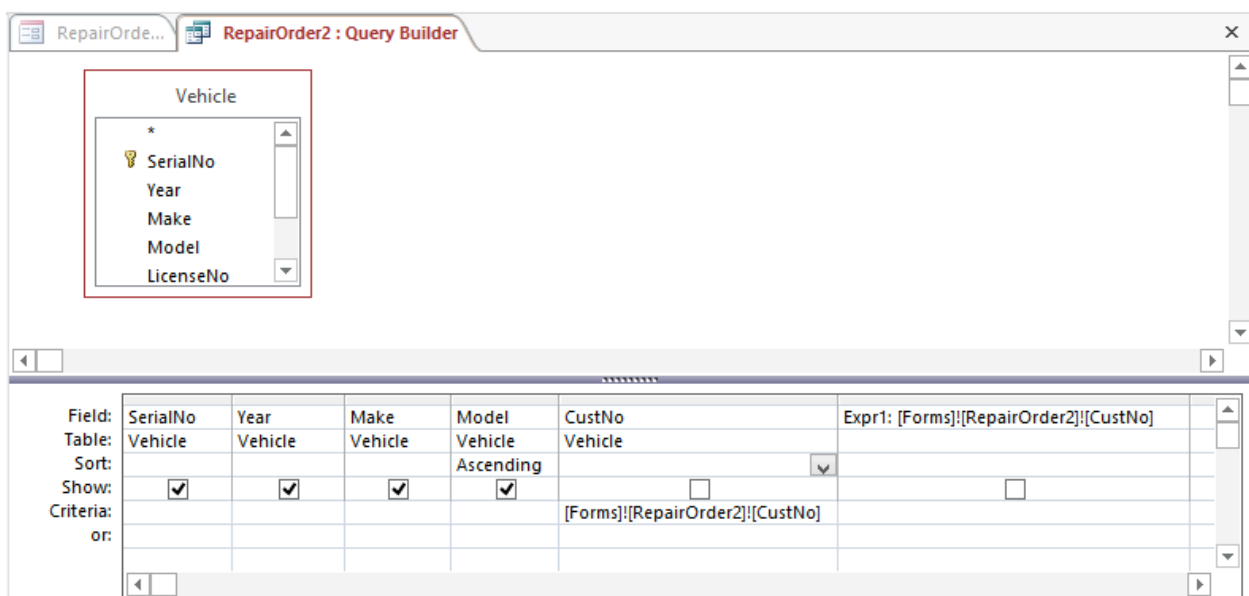

Figure 22: Query Design Showing the Finished Query
5. Review the Query: The final query appears in Figure 22. Note that the *Criteria* values are truncated because of space limitations. If you open the Expression Builder window, you will see the entire property value. You also can see the entire SELECT statement by toggling to SQL view.